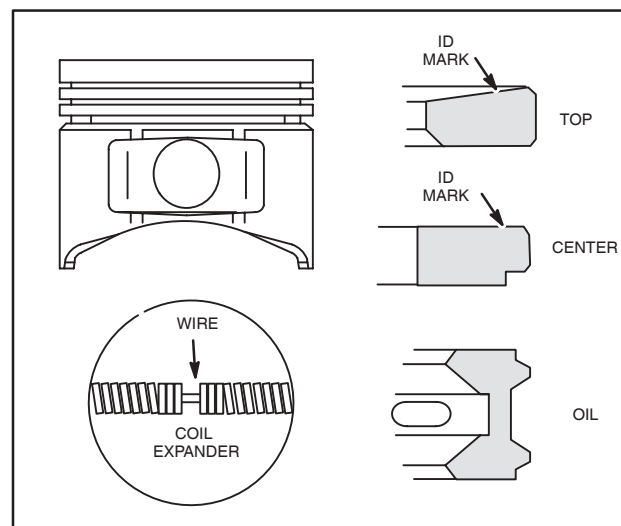

Fig. 11 – Installing Piston Rings
1. Install piston rings using ring expander, Tool #19340, Fig. 11.